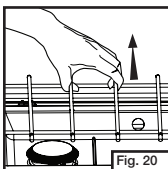

Fig. 20
- Lift off pan support. (Fig. 20)